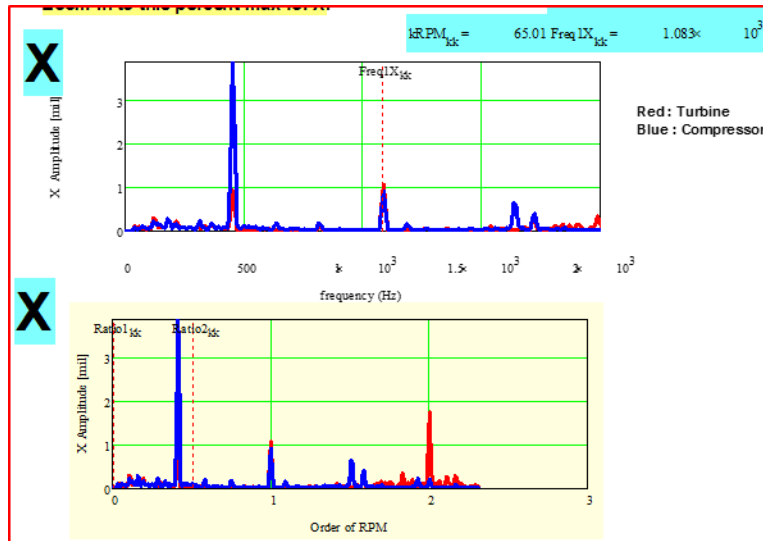

Fig. 3. X-amplitude of DFT vs frequency (top) & vs order of RPM (bottom) recorded at shaft speed=65 krpm (1083 Hz).
- F) Show amplitude of DFT vs order of rpm (i.e. divide frequency/shaft speed in Hz). See Figure 3, for example.